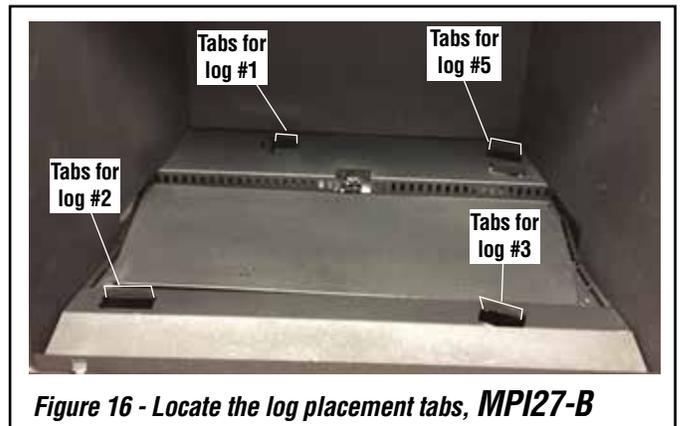

Figure 16 - Locate the log placement tabs, MPI27-B
1. If necessary, remove the glass door (**Page 30**). Locate and bend up Burner Locating Tabs (**Figure 16**).
2. Locate the log placement tabs (**Figure 16**). Place embers and other media.
- Align the notches in the bottom of the rear log (1) with the left rear locating tabs (see **Figures 16 and 17**).
- Position the left front log (2) on the left front log tab and the left burner locating tab (See **Figures 16 and 18**).
- Position the right front log (3) on the right front locating tab and right burner locating tab (See **Figures 16 and 19**).
- Position the right cross log (5) over the right rear locating tab (see **Figures 16 and 20**).